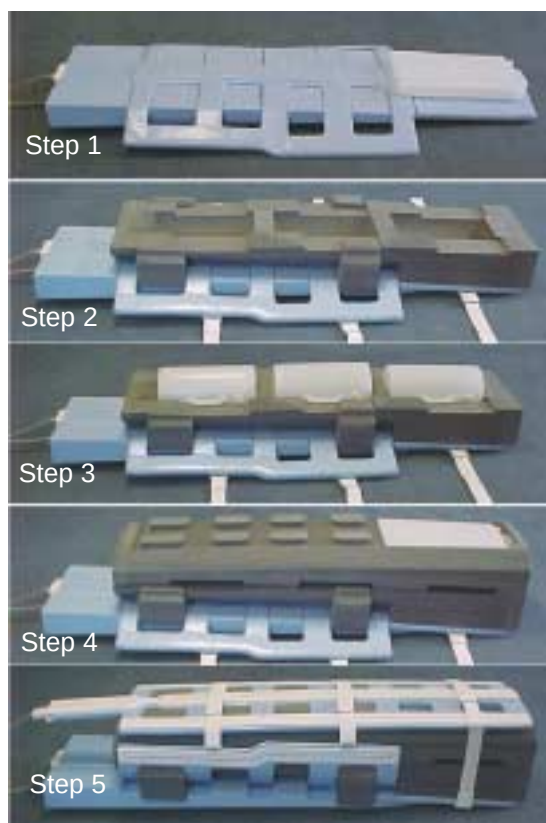

Figure 10: Assembling the coil phantom set.
2. Place the ramp pad, the posterior array coil, the phantom positioner lower section, and the loading phantom on the patient table as shown in *Figure 10*. The coil should be positioned such that its cables exit toward the magnet.
3. Position the three SNR phantoms in the phantom positioner lower section so the handles do not interfere with the phantom positioner upper section. Place the phantom positioner upper section with the loading phantom over the SNR phantoms as shown in *Figure 10*.
4. Lastly, place the anterior array coil over the phantom positioner upper section and loading phantom, and secure them together with the Velcro straps as shown in *Figure 10*.